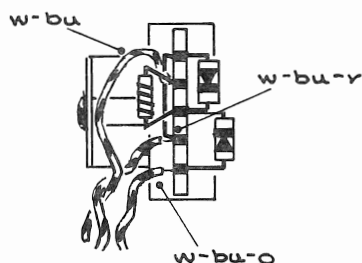

Fig. 3
- () 3. Solder the white-blue-red and white-blue-orange wires to the ceramic strip as indicated in Fig. 3.
- () 4. Dress the 1Ω resistor (on assembly) to the ceramic strip notch indicated in Fig. 3, and solder both the resistor and the white-blue wire to this notch.